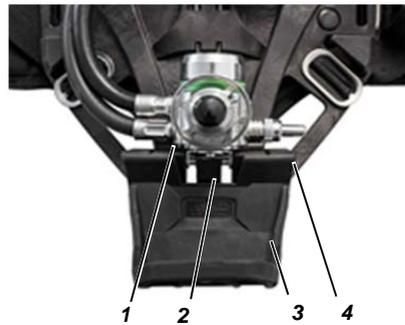

Fig. 27 Pressure reducer with bumper and valve-protection
- (9) Push the axis out of the retainer on the pressure reducer (→ Fig. 26 and Fig. 27).
- (10) Remove pressure reducer from the back plate, do not push up the catch spring.
- (11) Clean back plate with cylinder strap at max. 60 °C.
- (12) Clean harness in a suitable washing machine at max. 60 °C.
- (13) Clean lines, pressure reducer and pressure gauge preferable by hand.